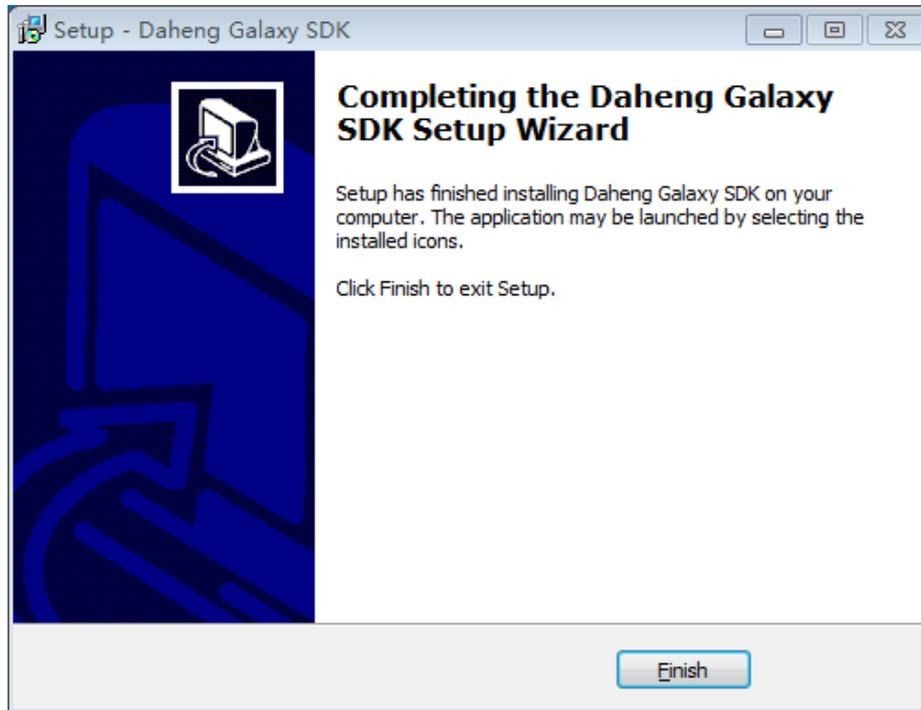

Figure 2.2-17
(20)Wait for the installation to complete, after the installation will pop up dialog box, click finish, complete the camera-driven installation. As shown in figures 2.2-17: